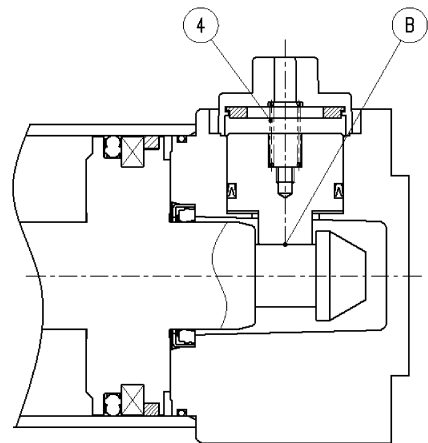

Fig. 2
- (b) When the piston of cylinder further comes closer to its stroke end and the groove ⑤ of sleeve matches to the tail of stopper piston, the stopper piston drops back to the groove ⑤ due to expansion force of spring ③, generating an effect of locking the piston of cylinder. (Fig. 2)